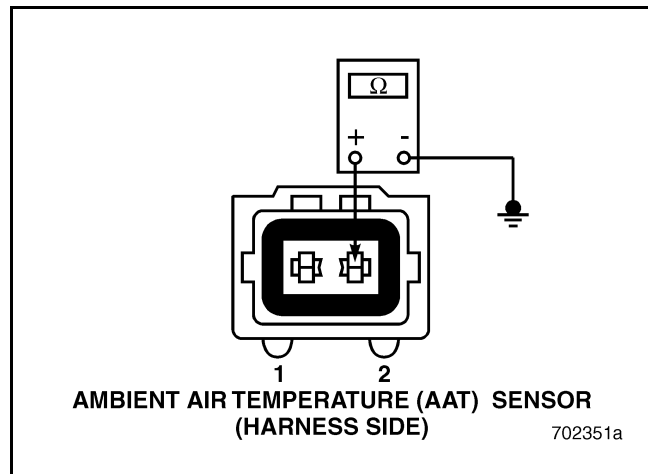

Figure 77
4. Check for continuity between pin 2 of the AAT Sensor harness connector and a good ground (see Figure 77).